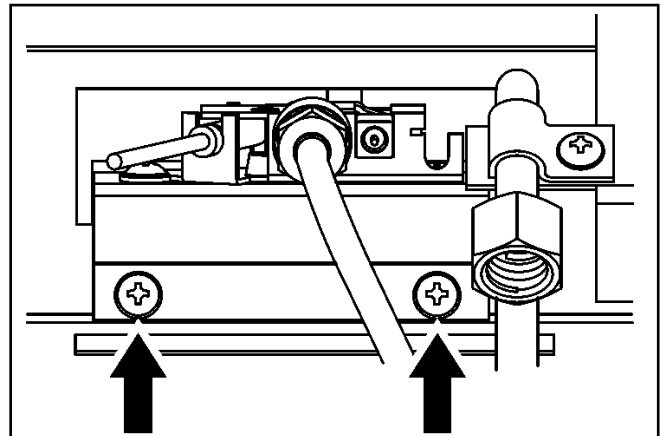

Figure 35. Pilot / pilot bracket assembly removal
5. Remove the two screws from the pilot bracket (See figure 35).
(See figure 35).